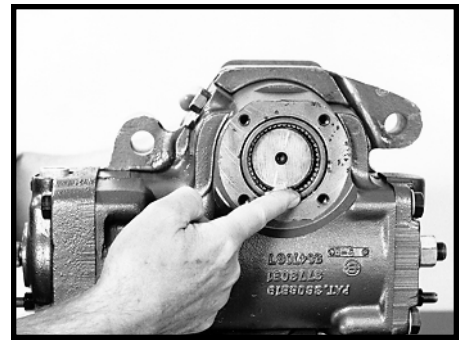

Figure 46
**NOTE:** Take care to remove this assembly slowly, or it may come out too quickly for you to retain the bearing rolls in the housing bearing race. Follow the shaft end with the bearing tool (J26738) to retain the rolls, or when the rolls are half exposed, be sure to coat them with grease to retain them in the housing bearing. SEE FIGURE 46.